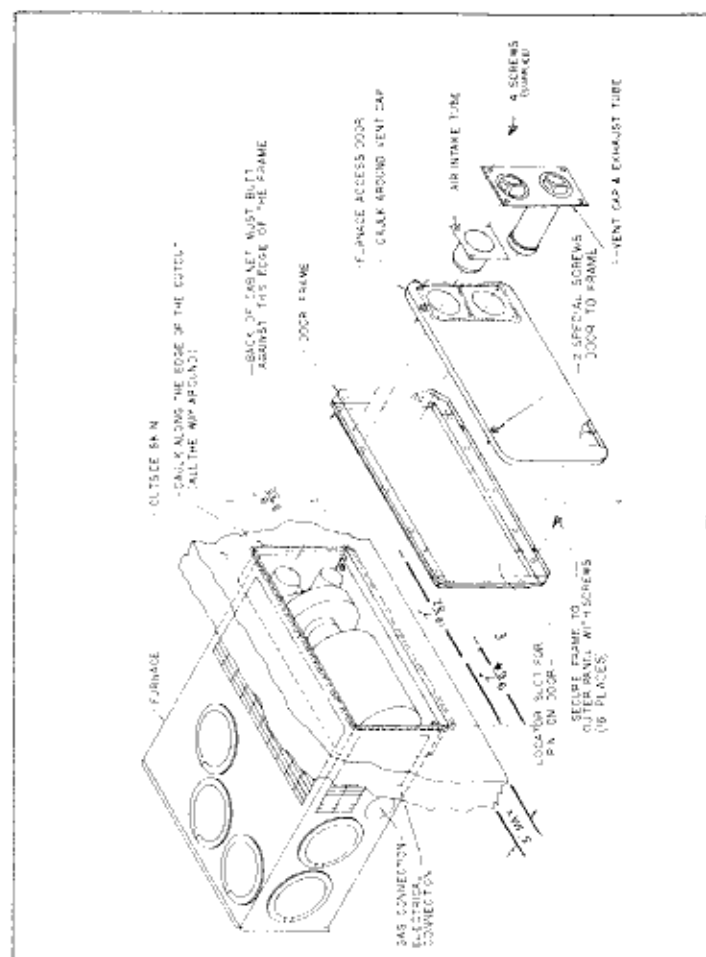

Figure 4
Unless a back access door is used (See Figure 4), we require that a permanent access be provided directly in front of the furnace. The access must allow for free, unobstructed removal and reinstallation of the furnace.
C. INSTALLATION DIRECTLY THROUGH OUTER PANEL OF COACH (See Figure 4)